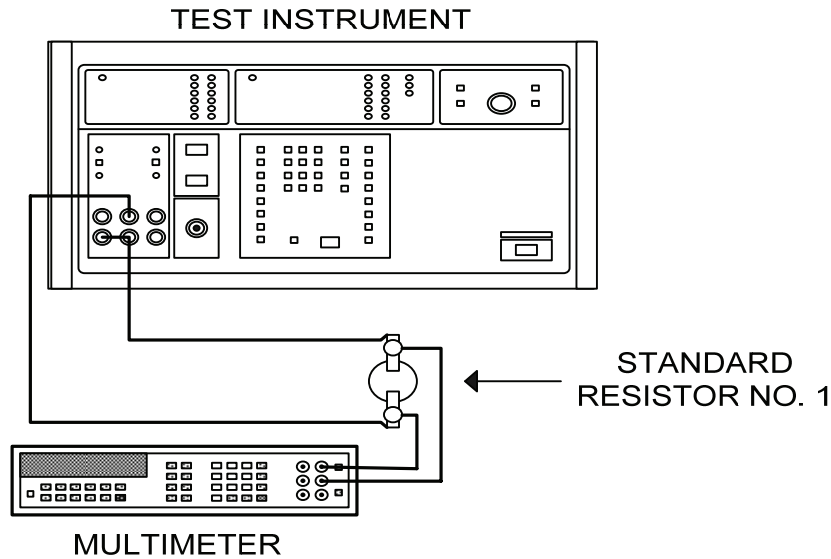

Figure 3. Dc current (1 A).
**d.** Connect equipment as shown in figure 3.